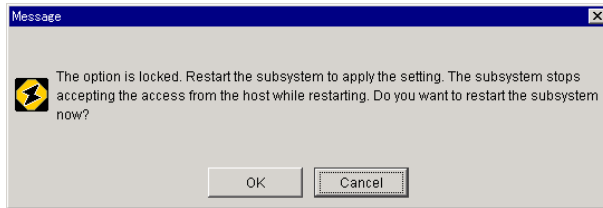

Figure 4.9 Option Lock Confirmation
7. A message appears, confirming that this optional feature is locked (see Figure 4.9). This message also tells you to restart the system to apply the setting. Click the **OK** button.